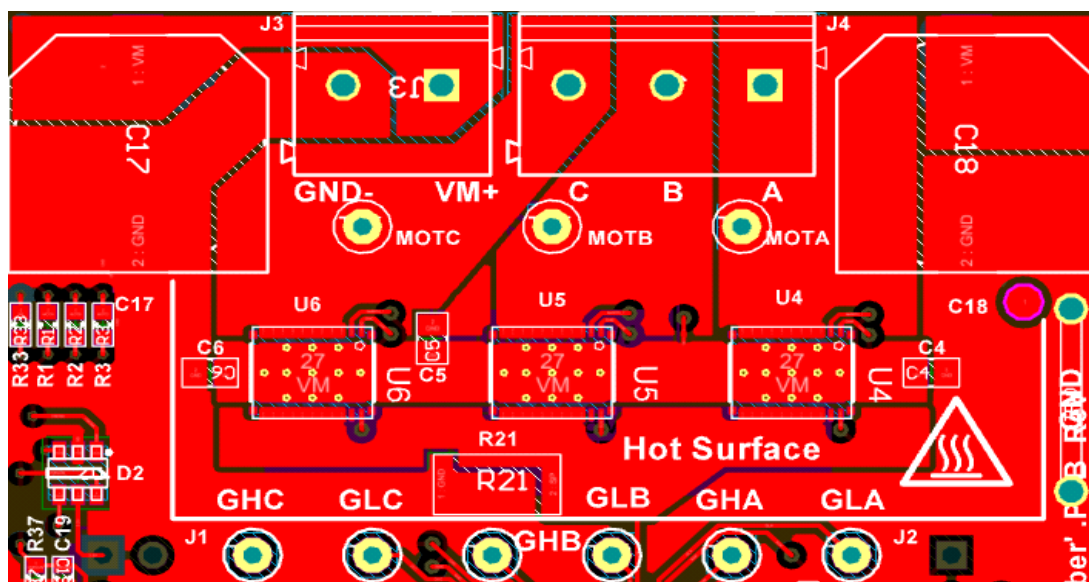

Figure 6-2. Top Layer
- Use the smallest drill size allowed by the design. The example in Figure 6-2 uses vias with a 10mil drill hole and a 16mil solder pad.